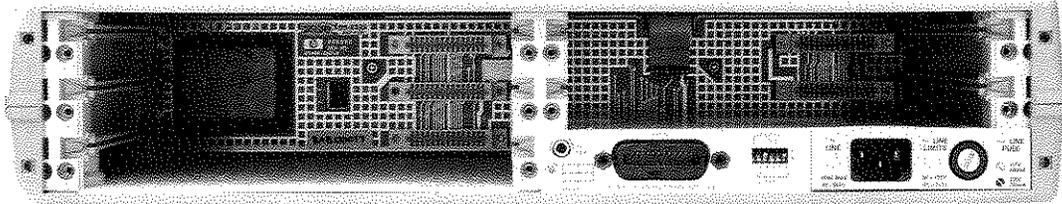

Figure 9-2. Rear Panel View of the 3488A
- c. Select a slot. Refer to Figure 9-2, the 3488 has five slots for installing option assemblies. The 44473A can be used in any of the five slots.